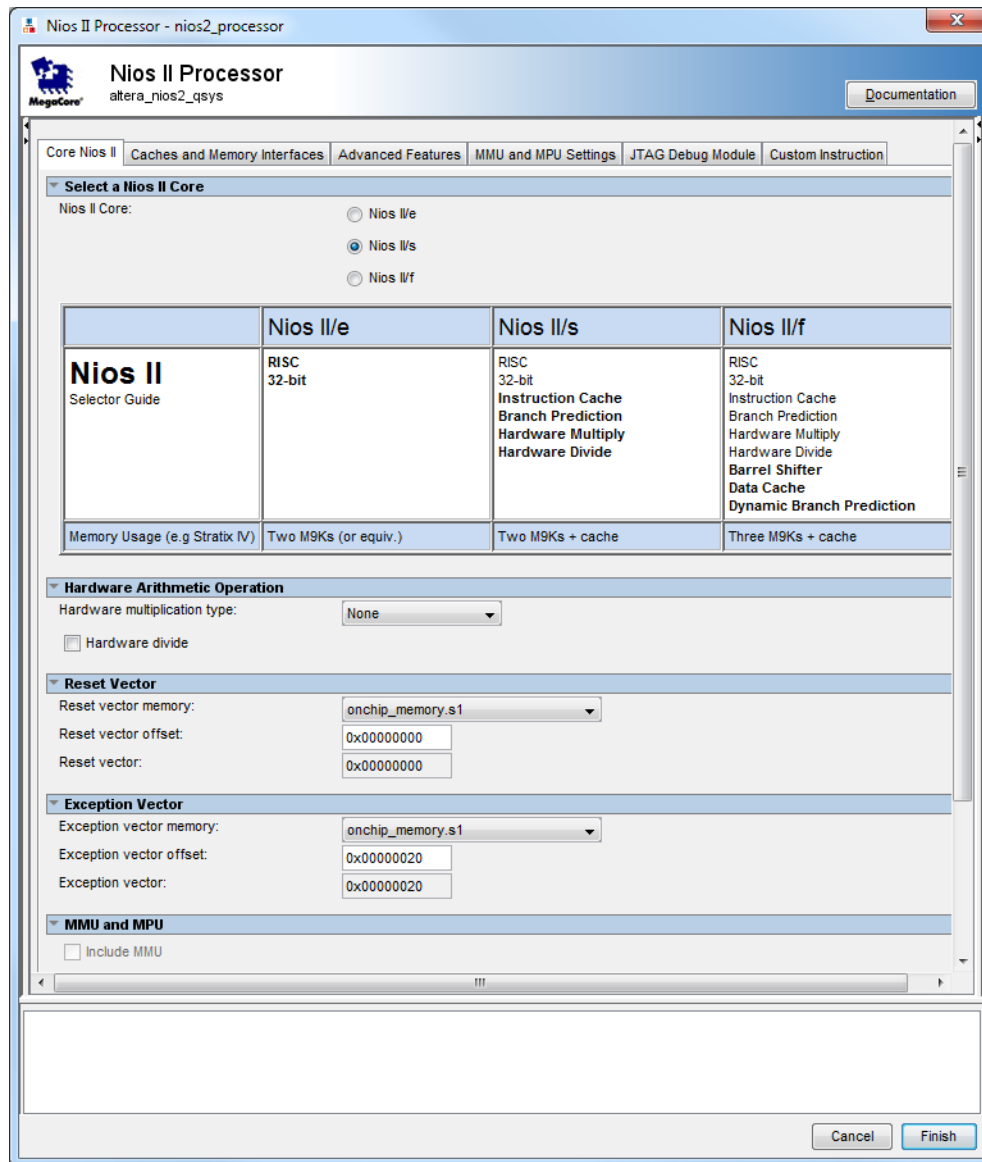

Figure 18. Define the reset and exception vectors.
- Right-click on the *nios2\_processor* component in the window displayed in Figure 17, and then select Edit to reach the window in Figure 18
- Select *onchip\_memory* to be the memory device for both reset and exception vectors, as shown in Figure 18